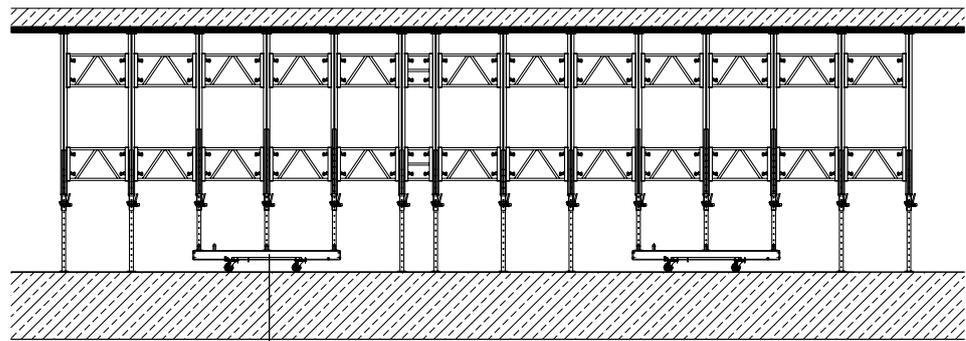

Fig. 31.1
4. Pull the props down to the transport walers and attach them with pins (Fig. 31.1).
The transport unit shown in figures 31.1 through 31.3 weighs 5,4 tons including slab formwork. The 4 transport walers used for this unit can support a total weight of 12 tons (4 times 3 tons).